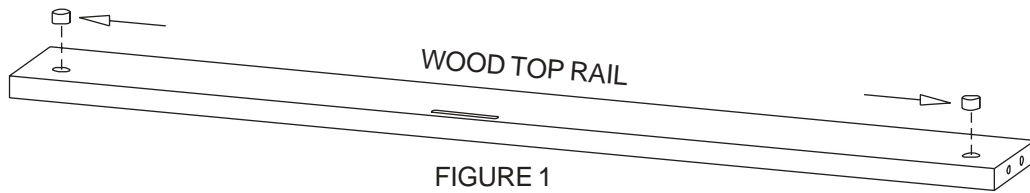

FIGURE 1
Lay the wood top rail down with holes facing up as shown in **FIGURE 1**. Insert a cam lock (DD) into each hole. Make sure the arrow on the cam lock faces the edge of the rail as shown. Lay one side panel down with holes facing up as shown in **FIGURE 2**. Insert a locking screw (EE) into the small hole and insert a wood dowel (FF) into the larger hole in the locations shown in **FIGURE 2**. Attach the remaining locking screw and wood dowel to the other side panel as described above.